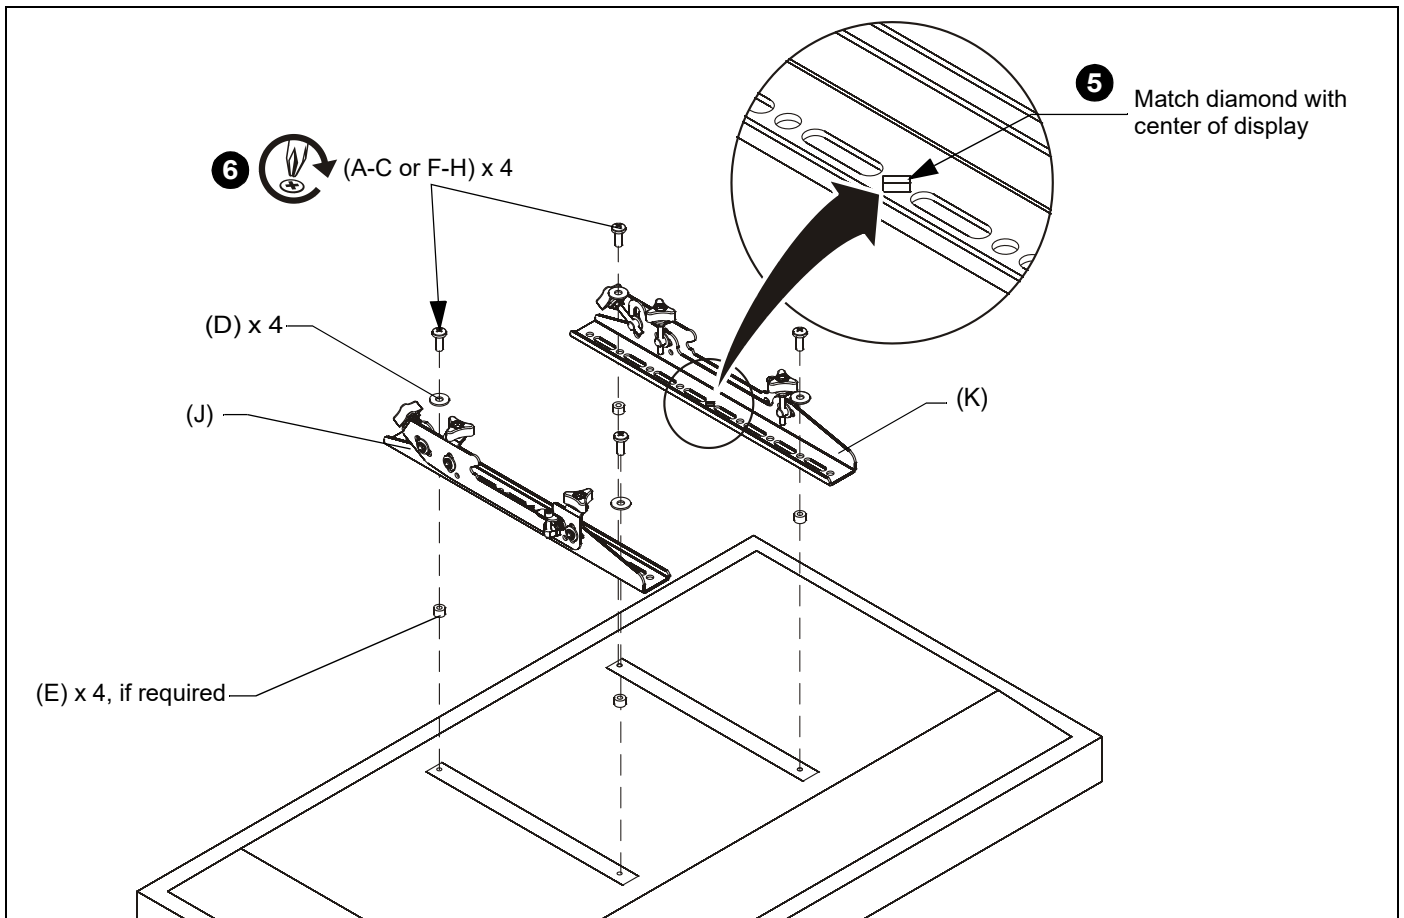

Figure 6
- Spacers (E) **ARE** required if mounting holes are recessed, or if protrusions prevent interface brackets (J and K) from laying flat.
4. Select screw *length*: (See Figure 6)
- By hand, insert **SHORTEST** length screw of selected diameter (A or F) through 1/4" washer (D), bracket (J or K), selected spacer (E, if required), into display mounting hole. Do **NOT** thread screw into hole at this time.
5. Align the center of the interface brackets (J and K) with center of screen. (See Figure 6)
6. Use selected screws (A-C or F-H), washers (D) and spacers (E), if necessary, to connect interface brackets (J and K) to back of display. (See Figure 6)